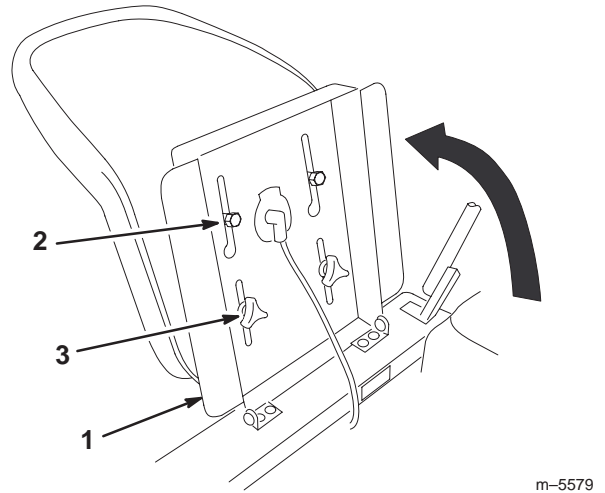

Figure 5
- Raise the seat support on the machine (Fig. 5).
- Slide the shoulder bolts on the bottom of the seat into the slots on the seat support (Fig. 5).
- Secure the seat to the seat support with the spacers, flat washers and knobs removed in step 2 and 3 (Fig. 5).